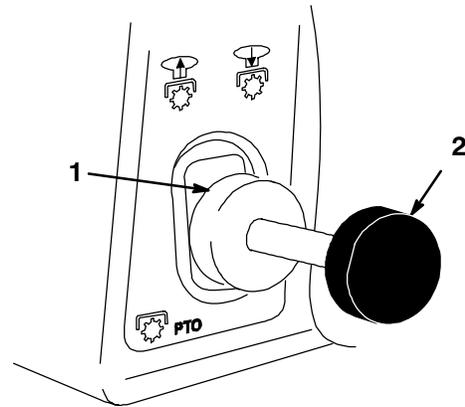

Figure 6
- Push the PTO (power take off) to “OFF” (Fig. 6).
- Pull the power take off (PTO) to “ON” (Fig. 6).
- Push the power take off (PTO) to “OFF” (Fig. 6).